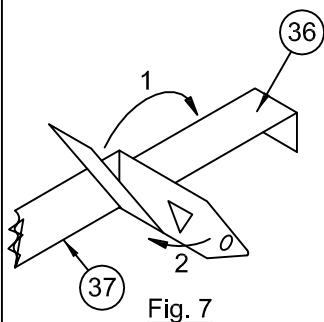

Fig. 7
1. Attach one Furring Channel Bracket (36) to each Hanger Bar (37) as shown in Fig. 7 and 8.